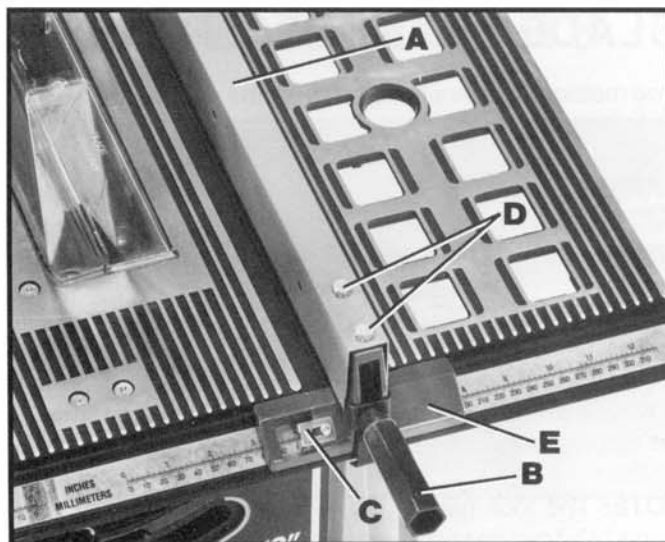

Fig. 24
1. To move the rip fence (A) Fig. 24, along the table, loosen fence lock handle (B), slide the fence to the desired location on the table and tighten fence lock handle (B) to lock the fence in position.
2. A pointer (C) Fig. 24, is supplied to indicate the distance the fence is positioned away from the saw blade. If an adjustment to the pointer (C) is required, loosen the screw that fastens the pointer to the fence bracket and adjust the pointer accordingly.
5. Position the fence at one edge of the miter gage slot, as shown in Fig. 24. Clamp the fence to the table by tightening the lock handle (B). The edge of the fence should then line up parallel with the miter gage slot.
7. Loosen the two screws (D) Fig. 24, and loosen lock handle (B). Then while holding the fence bracket (E) firmly against the front of the saw table move the rear end of the fence (A) until it is parallel with the miter gage slot. Then tighten two screws (D) and lock handle (B).